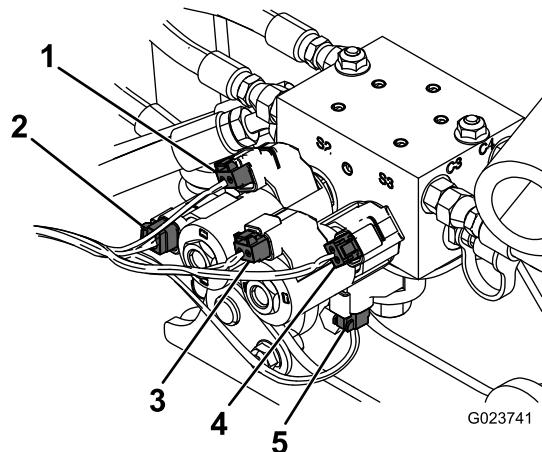

Figure 21
5. Connect the wiring harness to the hydraulic block as shown in Figure 21.